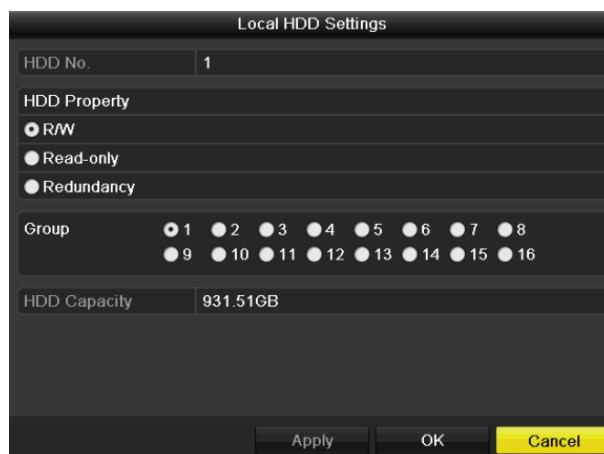

Figure 14.15 Set HDD Property
2. Select HDD from the list and click the  icon to enter the **Local HDD Settings** interface, as shown in Figure 14.15.